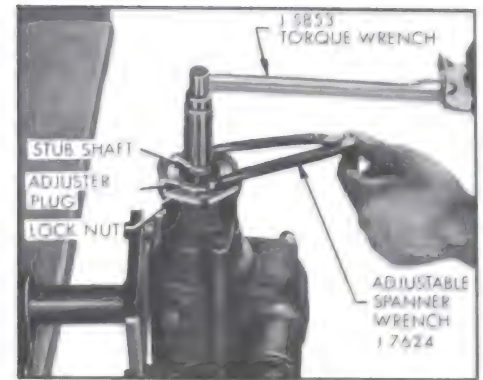

Figure 8-32—Adjusting Thrust Bearing Preload
2. Loosen adjuster plug locknut and back off adjuster plug approximately 1/8 turn with adjustable Spanner Wrench J-7624. Attach Torque Wrench J-5853 with 3/4 inch 12 point socket to stub shaft and turn shaft to approximately 1/2 turn from either extreme. Slowly rotate wrench in an arc approximately 60° (1/6 turn) in both directions several times to measure valve drag and record highest reading. See Figure 8-32. Then tighten adjuster plug until thrust bearing preload is 1 to 3 inch pounds in excess of drag measured with adjuster plug backed out. Total of thrust bearing preload and valve drag should not exceed 11 inch pounds.
3. Adjust the thrust bearing preload. Attach Torque Wrench J-5853 with a 3/4 inch socket to the stub shaft. Turn stub shaft to approximately 1/2 turn from either extreme. Slowly rotate wrench in an arc approximately 60° (1/6 turn) in both directions several times to measure valve drag. See Figure 8-32. Then tighten adjuster plug until thrust bearing preload is 1 to 3 inch pounds in excess of valve drag measured with adjuster plug backed out. Total of thrust bearing preload and drag should not exceed 11 inch pounds.